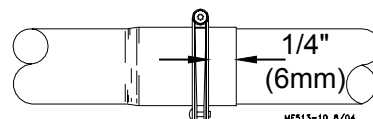

Figure 35. Clamp Installation
Continue down the entire length of the feeder line so that every joint is secured with a standard Clamp or Clamp/Anti-Roost Bracket. **Figure 35** shows the proper clamp location on the tube joint. Do not tighten the clamp at this time.
- make sure the clamps are located, as shown in **Figure 35**.